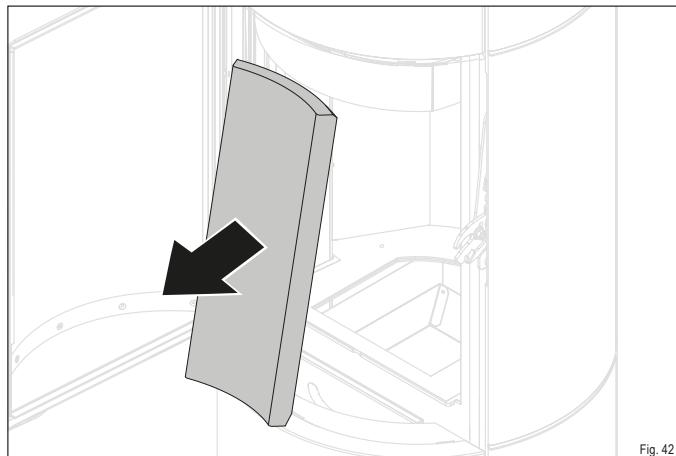

Fig. 42
- Remove the back firebrick (Fig. 42).